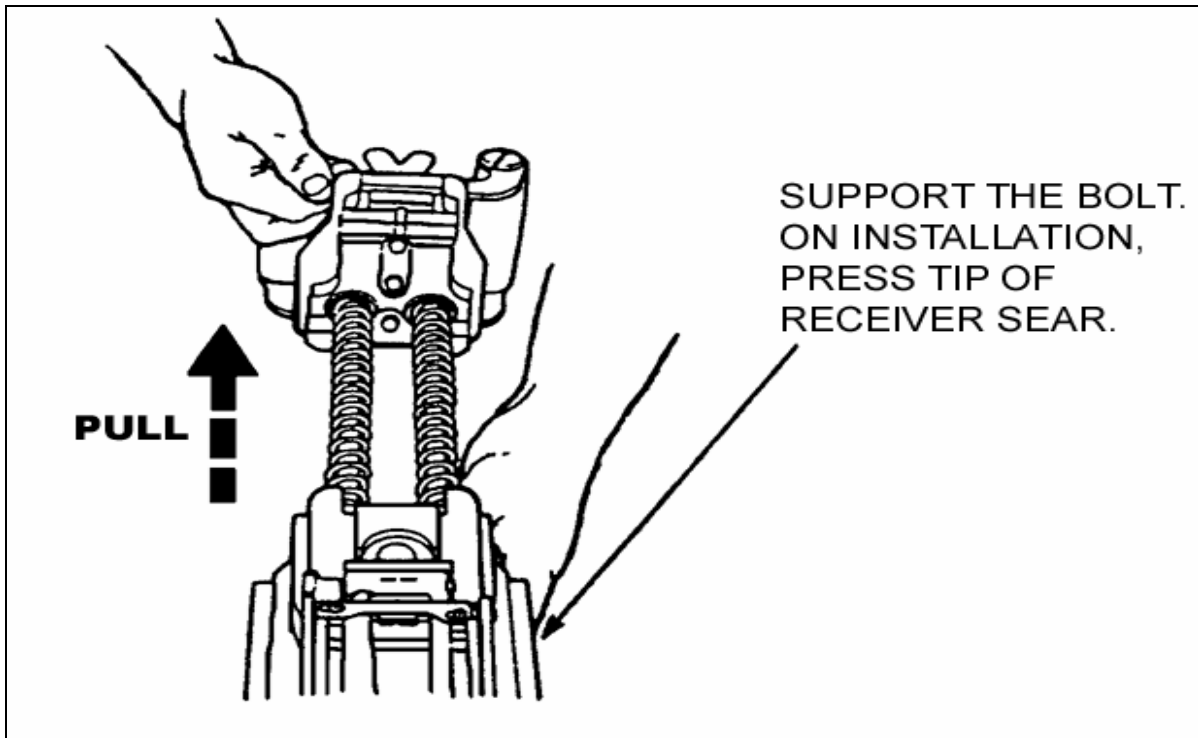

Figure 2-19. Removal of bolt and backplate assembly.
- (f) Once the bolt clears the sear, catch the bolt in one hand to prevent damage to the backplate assembly (Figure 2-19).